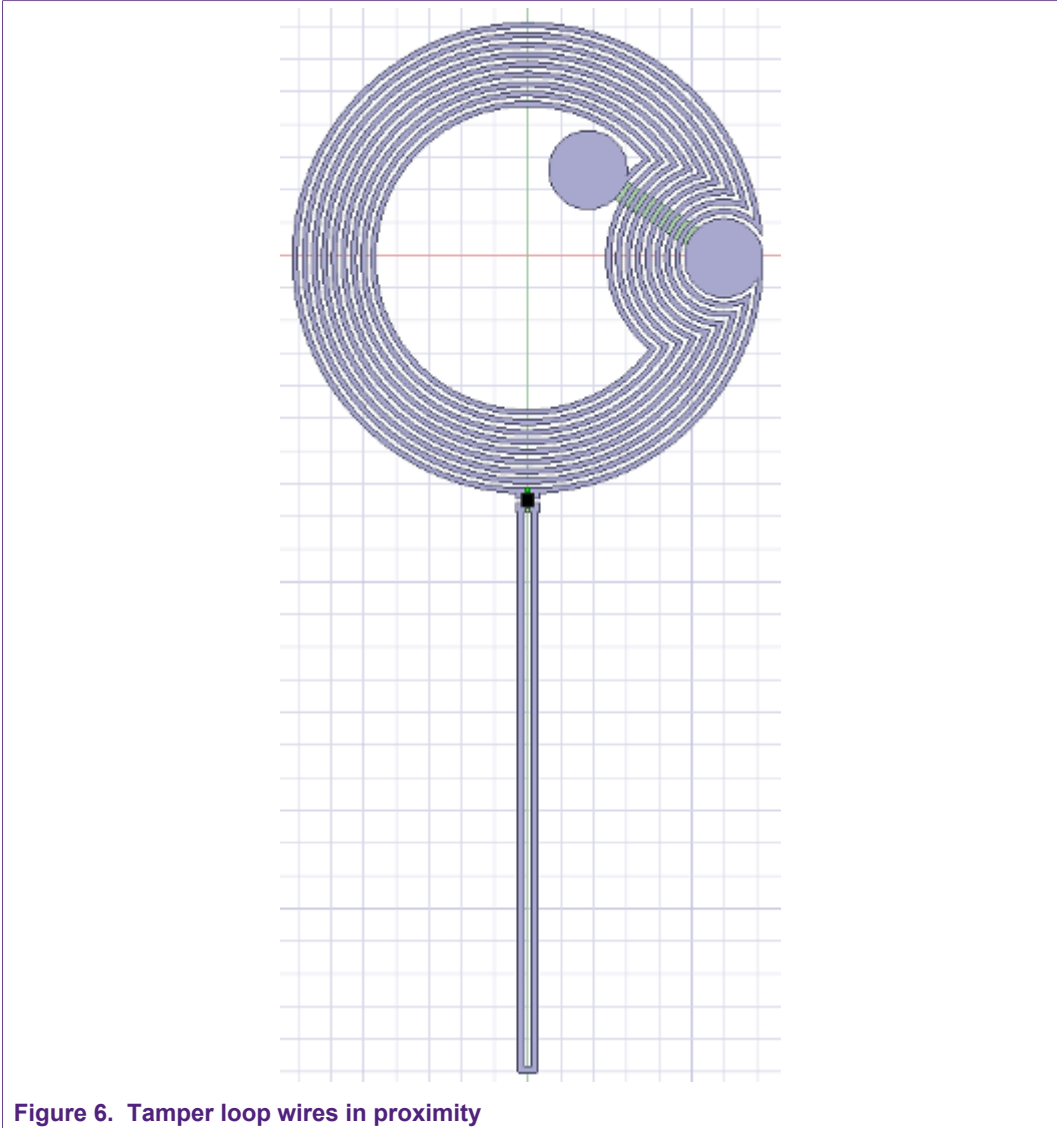

Figure 6. Tamper loop wires in proximity
3. Tamper loop wires/conductors shall be positioned as close as possible [Figure 6]